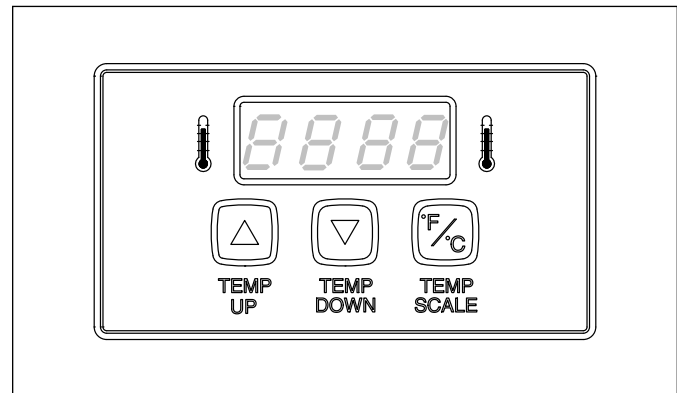

Figure 3. Controls
2. Press and hold the **Temp Up** and **Temp Down** buttons (Figure 3) until the display begins to flash.
1. Press and hold the **Temp Scale** button (Figure 3) for 2-3 seconds to change the display from Fahrenheit to Celsius.